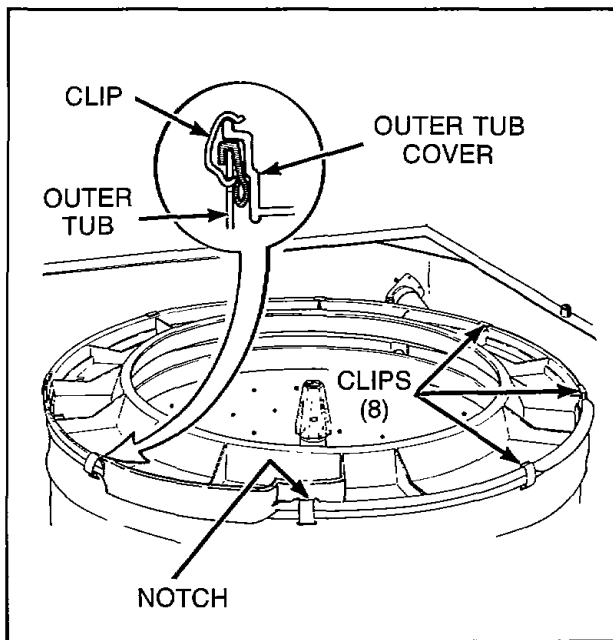

Figure 26
- Remove the eight clips holding outer tub cover to tub, *Figure 26*, and lift cover off tub.
**NOTE:** When installing outer tub cover, always use a new cover gasket. Lubricate the gasket with rubber lube or liquid soap to aid in assembly. Cover must be placed on outer tub so notch on top edge of outer tub cover is directly over left front clip hole in tub, *Figure 26*. Starting with this hole, place each spring clip in its respective hole and snap in place. See *Figure 26* for proper clip installation.
- Disconnect filler hose from backflow preventer, then remove the eight clips holding cover to outer tub, *Figure 26*.
**NOTE:** When installing outer tub cover, lubricate the cover gasket with liquid soap to aid assembly. Cover must be placed on outer tub so notch on top edge of outer tub cover is directly over left front clip hole in tub, *Figure 26*. Starting with this hole, place each spring clip in its respective hole and snap into place.
- d. Loosen hose clamp and disconnect filler hose from backflow preventer, then remove the eight clips holding cover to the outer tub, *Figure 26*.
**NOTE:** When installing outer tub cover, always use a new cover gasket. Lubricate the gasket with liquid soap to aid in assembly. Cover must be placed on outer tub so notch on top edge of outer tub cover is directly over left front clip hole in tub, *Figure 26*. Starting with this hole, place each spring clip in its respective hole and snap in place. See *Figure 26* for proper clip installation.